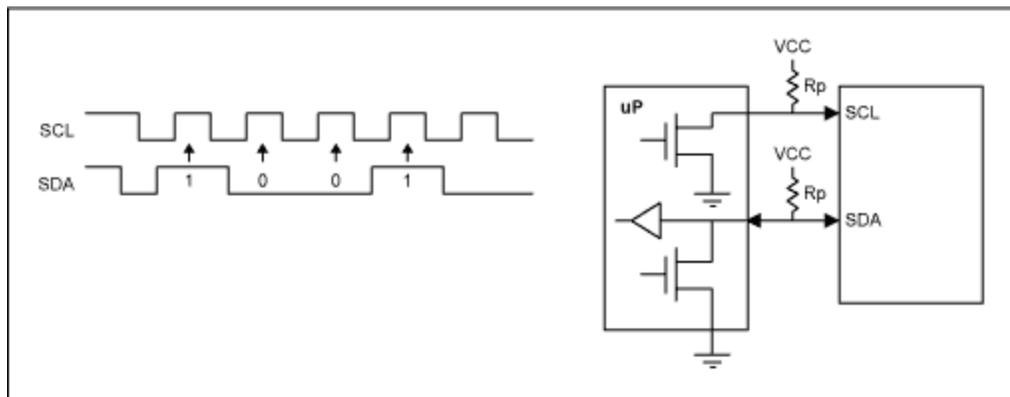

Figure 2. Signals and timing of the I2C-interface.
**Figure 2** illustrates the timing of the I2C-bus. Each device has a unique 7-bit or 10-bit address. As the data-line is bi-directional, only 2 wires are required, which is an advantage in space-constrained applications or in designs where different parts of the circuit have to be optically isolated. Data-rates for the I2C-bus are 100kbps, 400kbps, or even  $\mu\text{P}$  to 3.4Mbps for the high-speed mode. The I2C-bus requires pull-up resistors  $R_P$ , where the value of  $R_P$  depends on the supply-voltage and the bus-capacitance (number of devices connected to the bus and length of the bus).